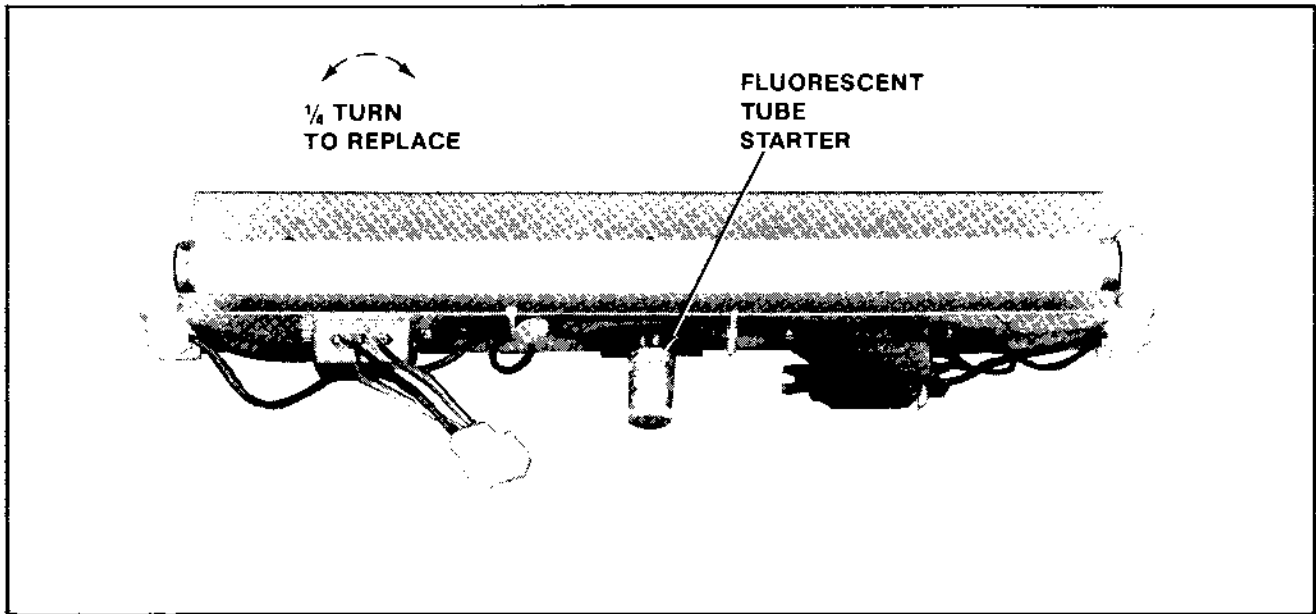

Figure 4-16 Replacing Fluorescent Tube Starter — Upright
- Replacing the fluorescent tube starter. See Figure 4-16.